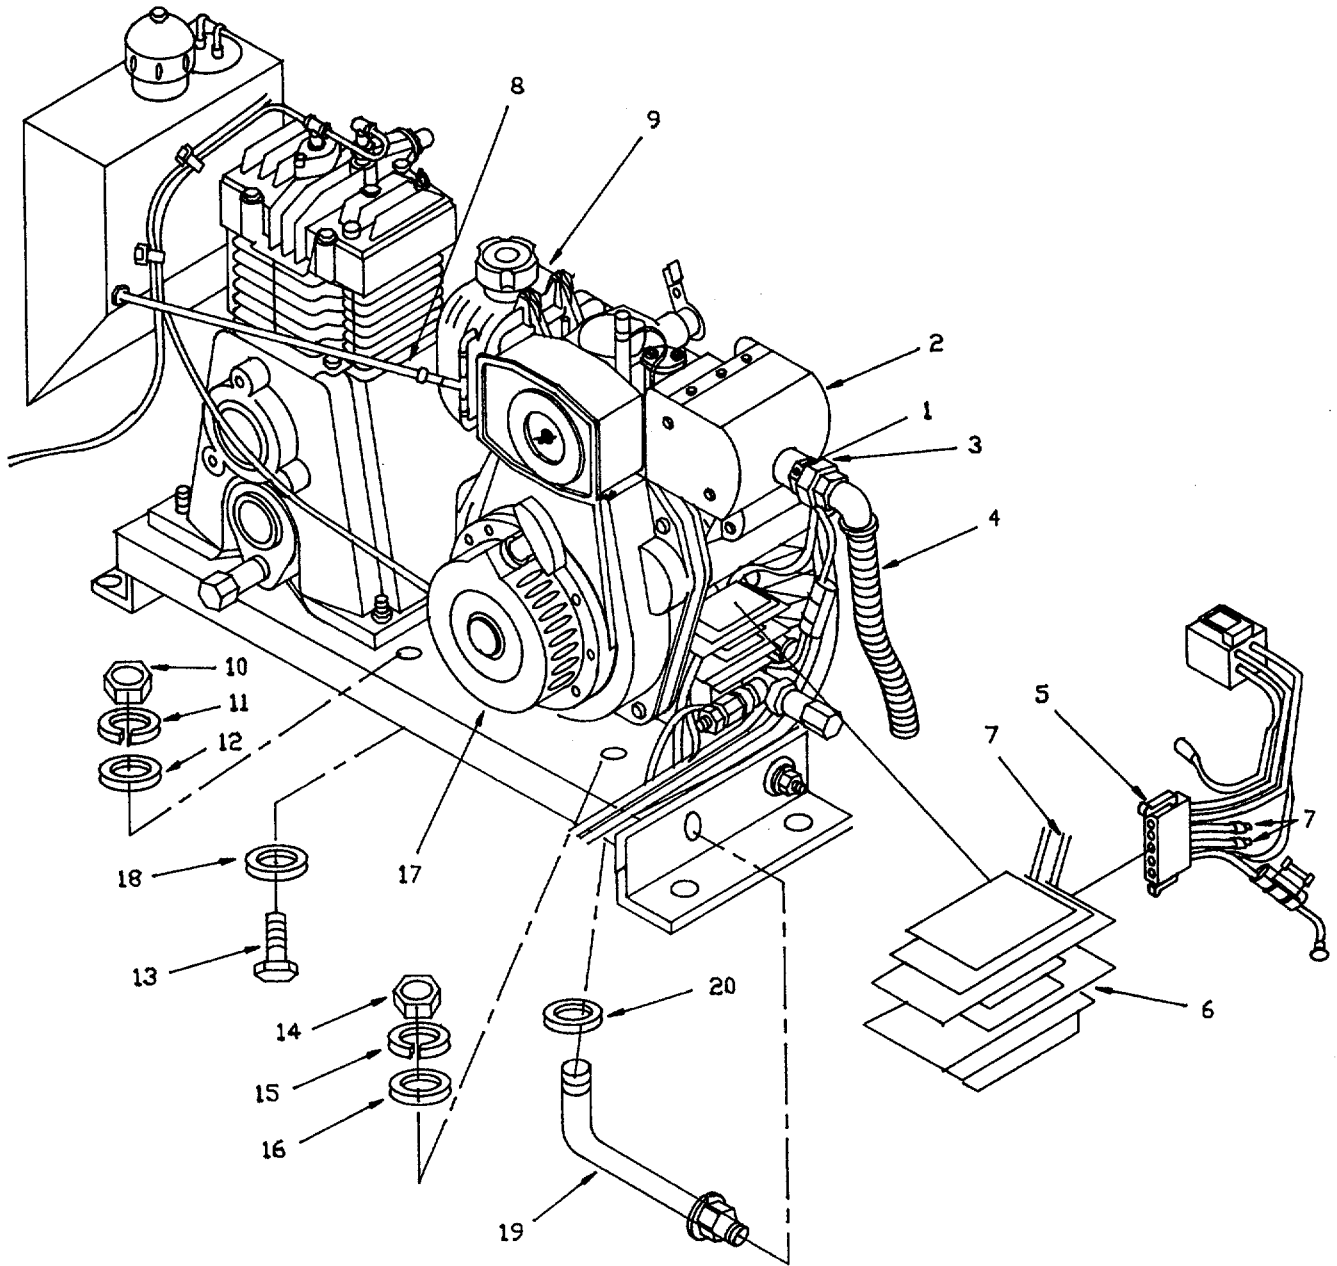

Figure 4-4. Engine Assembly.
- (1) Loosen set screw (1, Figure 4-4) of exhaust muffler (2).
- (2) Remove exhaust pipe union (3) and exhaust discharge hose (4).
- (3) Disconnect wire coupling (5) from current limiter (6).
- (4) Disconnect wires (7).
- (5) Remove cylinder assembly (reference para. 4-29, e.).
- (6) Remove cable assembly (reference para. 4-29, e.).
- (7) Disconnect starter wires (reference para. 4-19).
- (8) Disconnect wire and remove oil temperature transmitter (reference 4-29, c.).